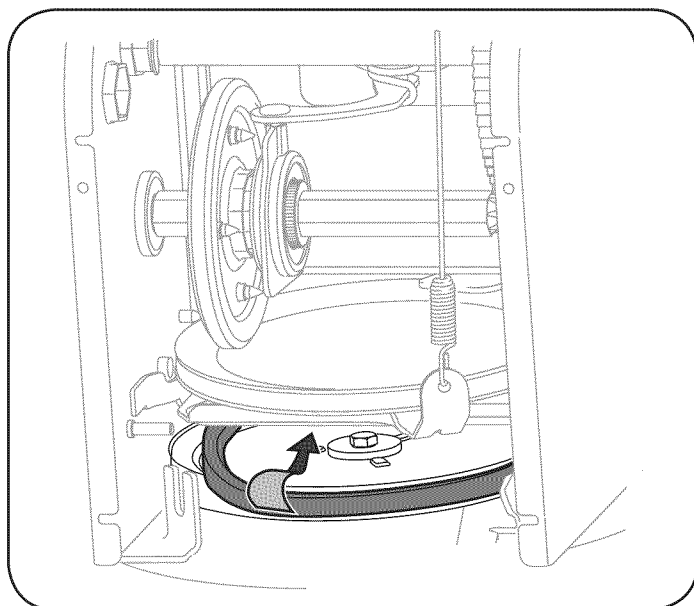

Figure 33
8. Remove the belt from around the auger pulley, and slip the belt between the support bracket and the auger pulley. See Figure 33.